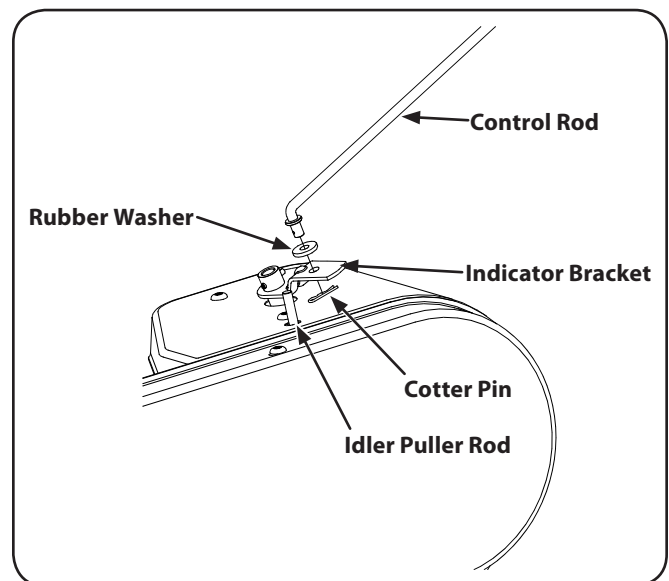

Figure 1-1
3. Remove the cotter pin and spring washer from the idler pulley rod. See Figure 1-1.